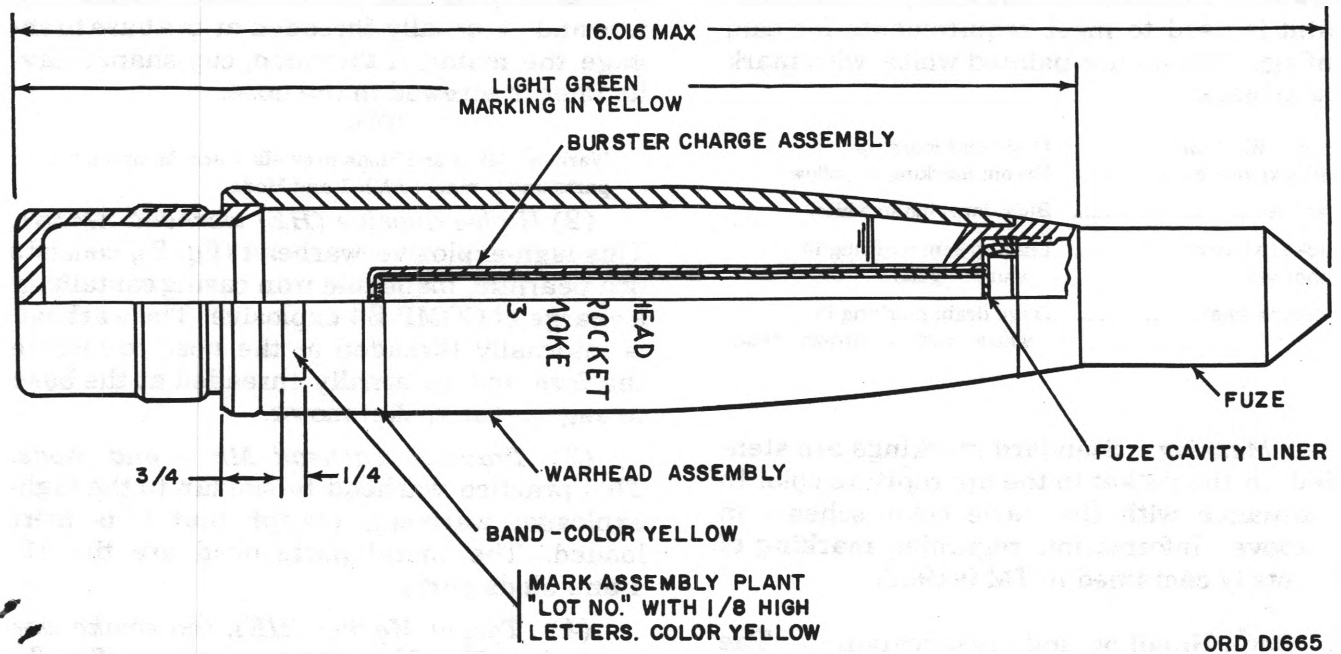

Figure 4. White phosphorous (WP) warhead M156 (E13).
d. White phosphorous (WP) (fig. 4), which contains a burster charge of high-explosive (HE) and white phosphorous, is used for marking targets with white smoke.
(6) *White phosphorous (WP) warhead E12.* This warhead, filled with white phosphorous and COMP B bursting charge, uses modified MK 1 and Mods metal parts.
(7) *White phosphorous (WP) warhead M156 (E13) (fig. 4).* This warhead, filled with WP and COMP B burster charge, uses metal parts similar to HE warhead M151.